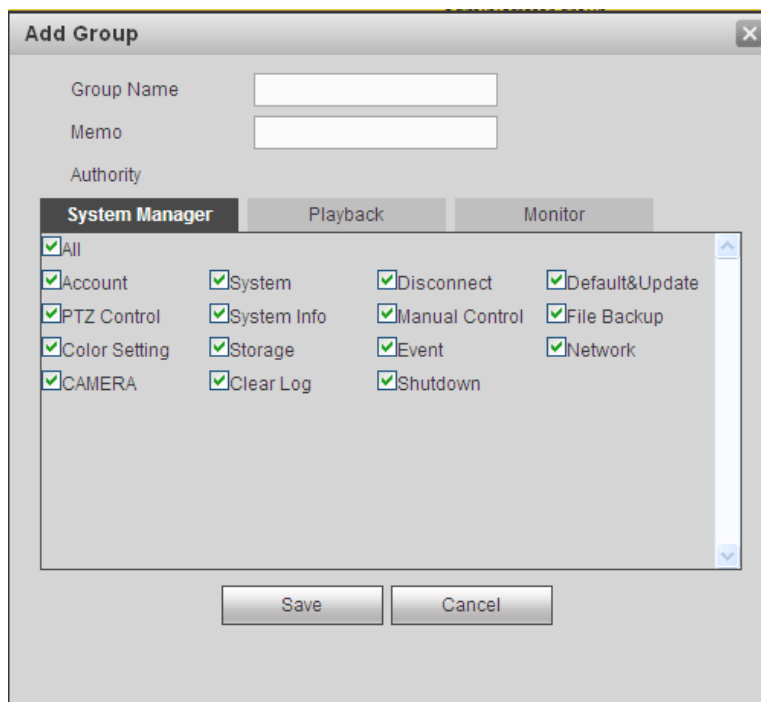

Figure 5-98
**Add group:** It is to add group and set its corresponding rights. See Figure 5-98. Please input the group name and then check the box to select the corresponding rights. It